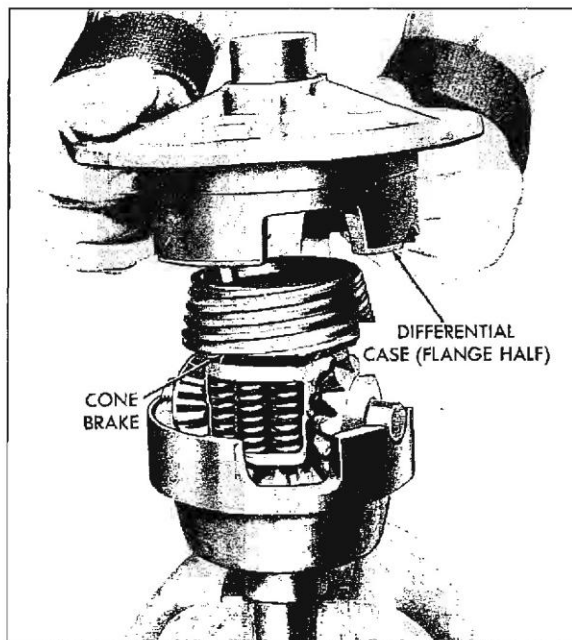

Fig. 4-53 Installing Flange Half of Differential Case
9. Install other axle shaft through flange half of differential case rotating axle to enter cone splines and then side gear splines. Leaving the axle shaft in this position, insert remaining bolts and tighten to 17 ± 1 ft. lb. (Fig. 4-53).